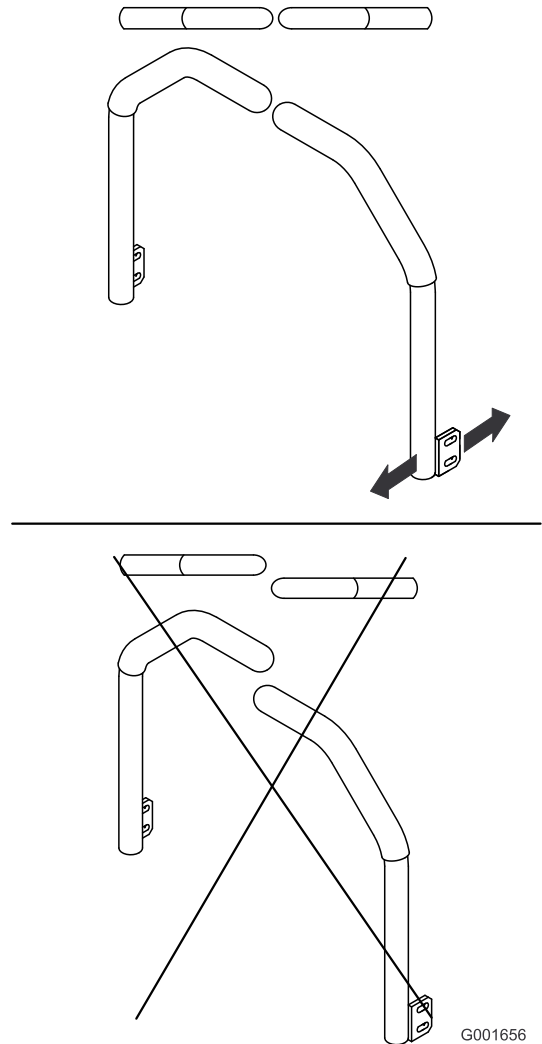

Figure 69
5. Adjust the control levers so that they line up (Figure 69) and tighten the bolts, securing the levers to the posts.